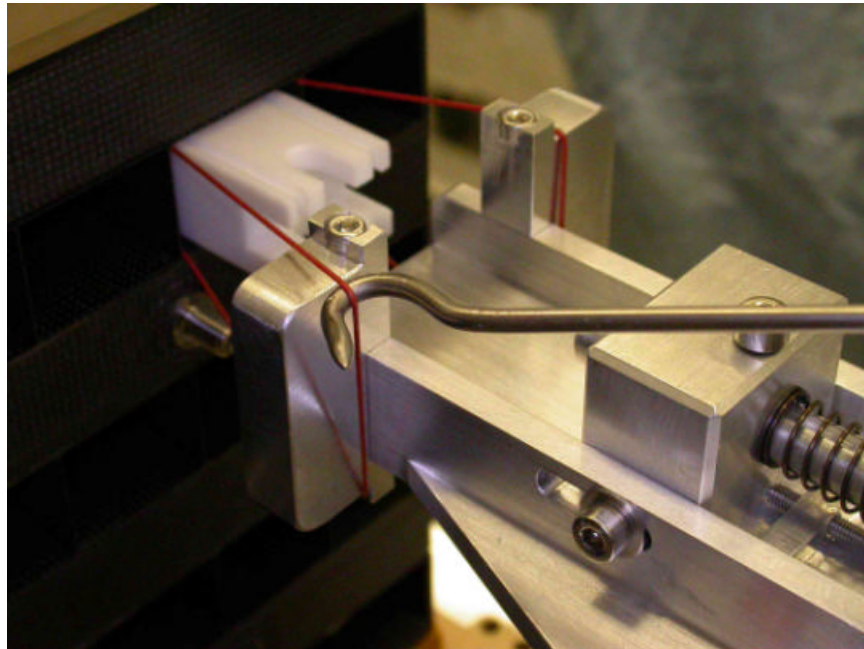

Figure 5.2-2: Installation of Elastic Cord onto Carriage
7. Using the plastic hook, extract the elastic cord from the mandrel and loop it around the cord support of the (+) and (-) Carriages as shown in Figure 5.2-2.